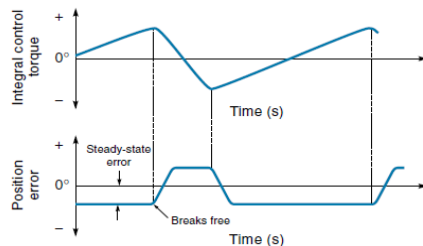

Figure 6.10 The system response of proportional plus integral control.
- At time = 0, the system in Figure 6.10 has just moved to a new position and stopped, leaving a steady-state error. The restoring force is equal to the contribution from proportional control plus the increasing force from the integral control.